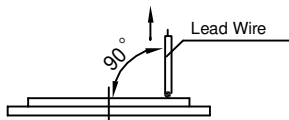

Fig.3.1 Direction of Lead Wire
b) Wire to be soldered on ceramic at the edge&should be pulled up at 90° The element should be hold on bottom and wire should be pulled up .It should withstand at least for 1.5N force(Fig.3.1)